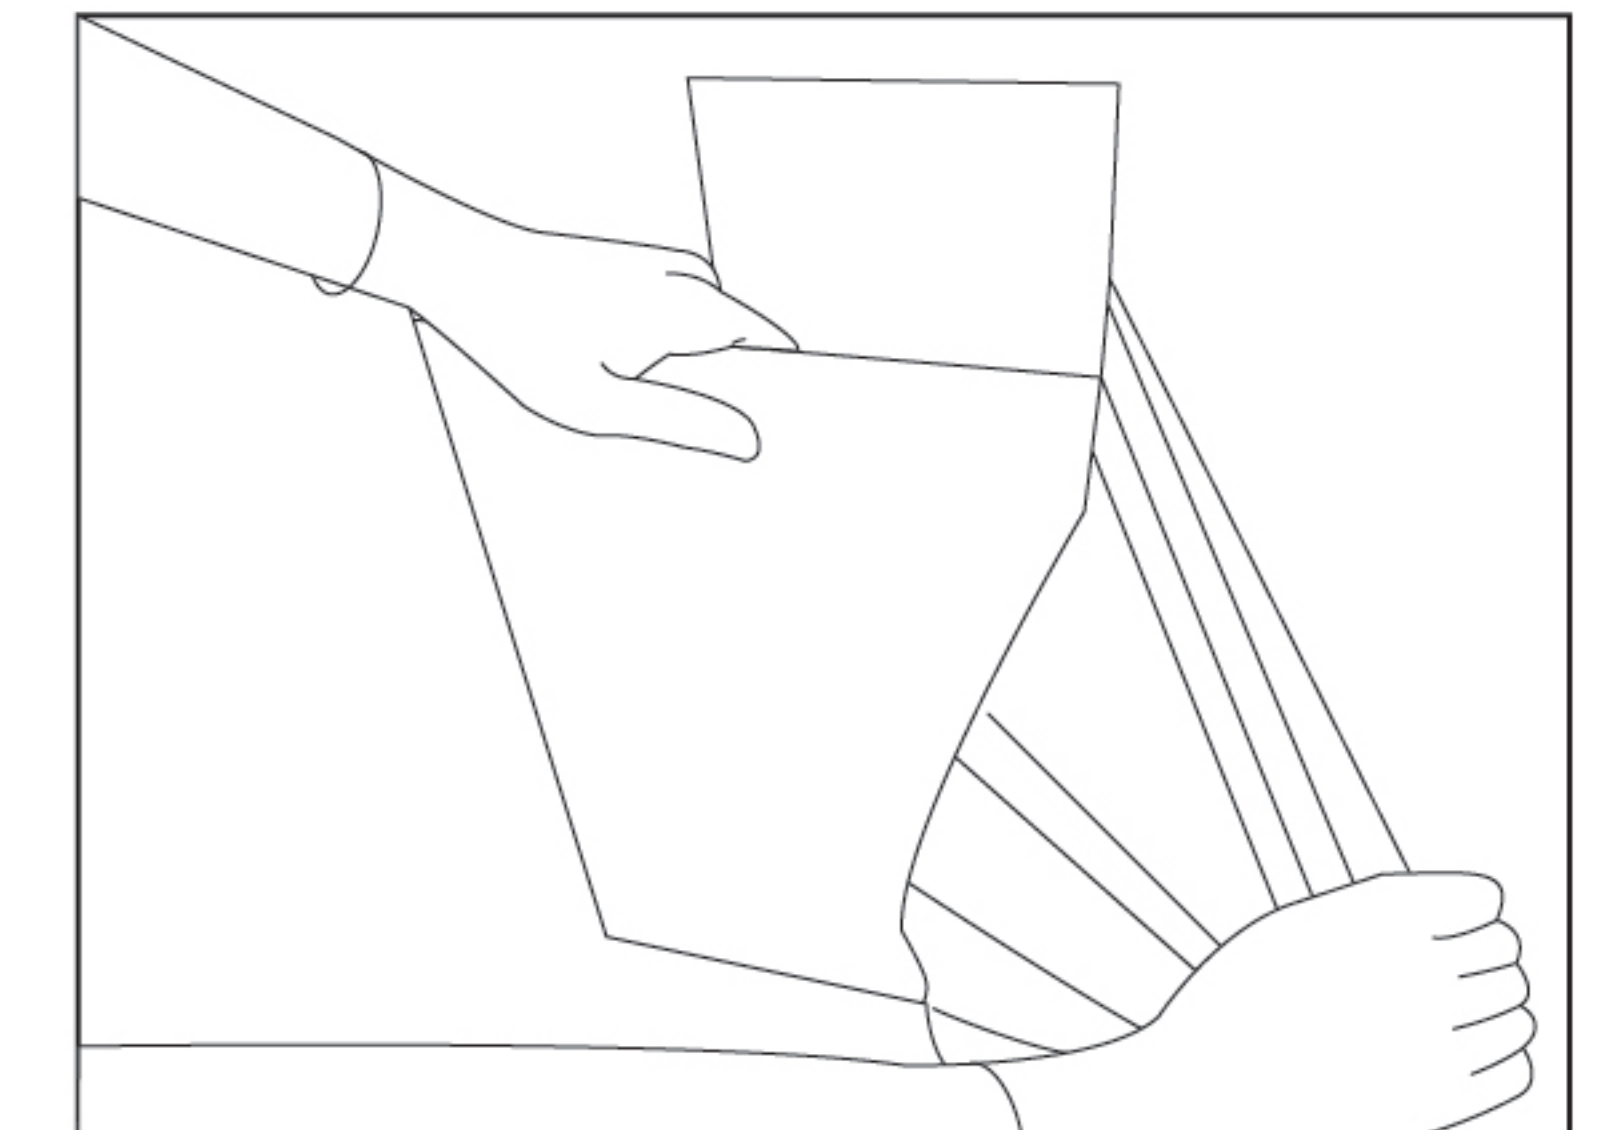

fig14
9. Tear the films: tear off the protective films of the fan cover and the decorative cover; Cautions: wear protective gloves; (fig14)